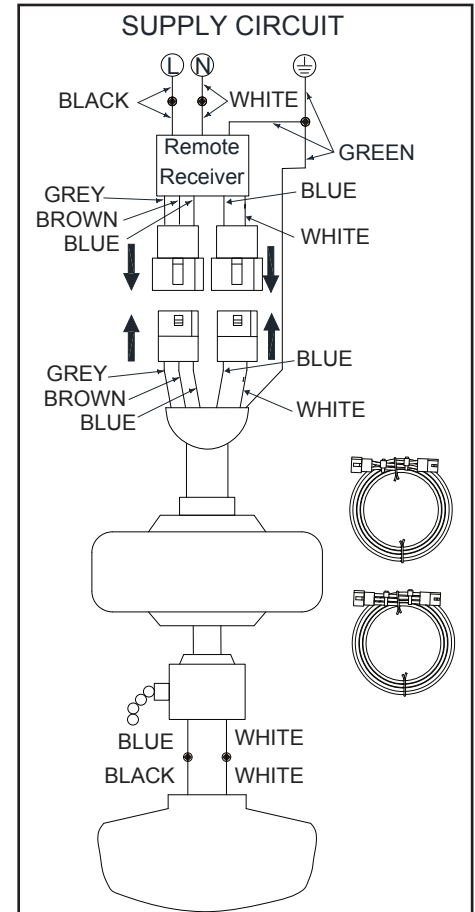

Figure 11
1. If using the 6 in. ball/downrod assembly provided, wire the receiver to the fan wires by connecting the molded adaptor plugs from the receiver with the molded adaptor plugs of the fan motor assembly together. (Figure 11)